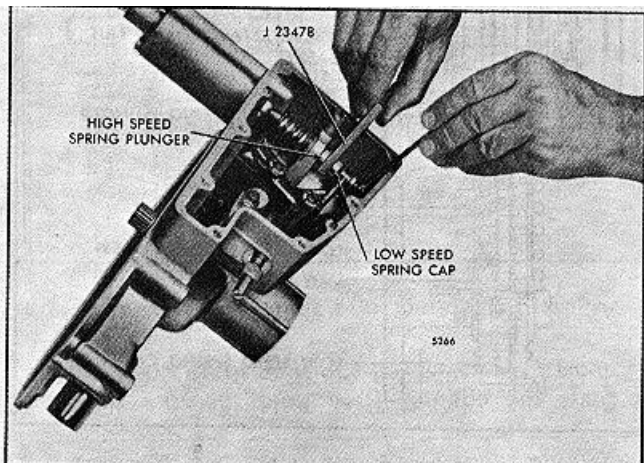

FIG. 3 - Adjusting Governor Gap (Single-Weight Governor)
8. Check the gap (.200") between the low-speed spring cap and the high-speed spring plunger with gage J 23478 as shown in Fig. 3.